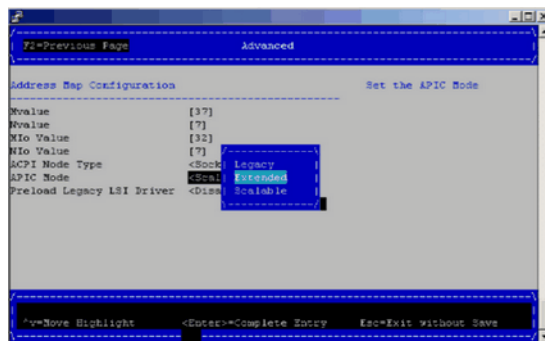

Figure 1-9 APIC Mode Extended Example Screen
- Change **Mvalue** back to 37 from 36. Change **Nvalue** back to 7 from 4. Change **APIC Mode** to **Extended** (see Figure 1-9 on page 10). Use F10 to save changes (alt-0 in some terminals). Use F2 to return to **Advanced** screen. Use F10 to save changes. Use Esc to return to **Device Manager** window. Select **Continue** and accept the reset request.